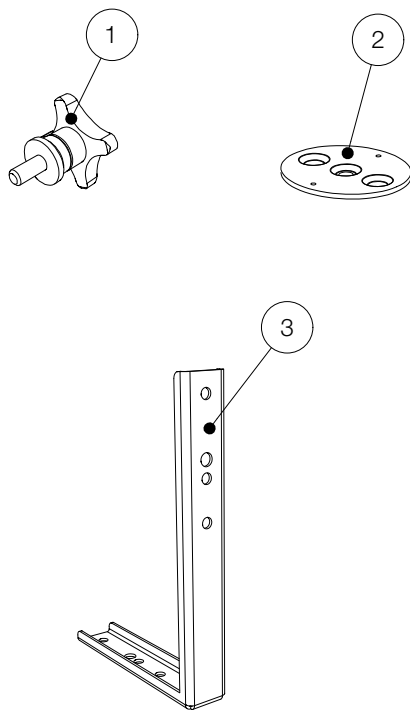

Figure 2.1 - Overview
Mount the SBM8 swivel bracket to the M8 loudspeaker using pos.1 (see figure 2.1) .